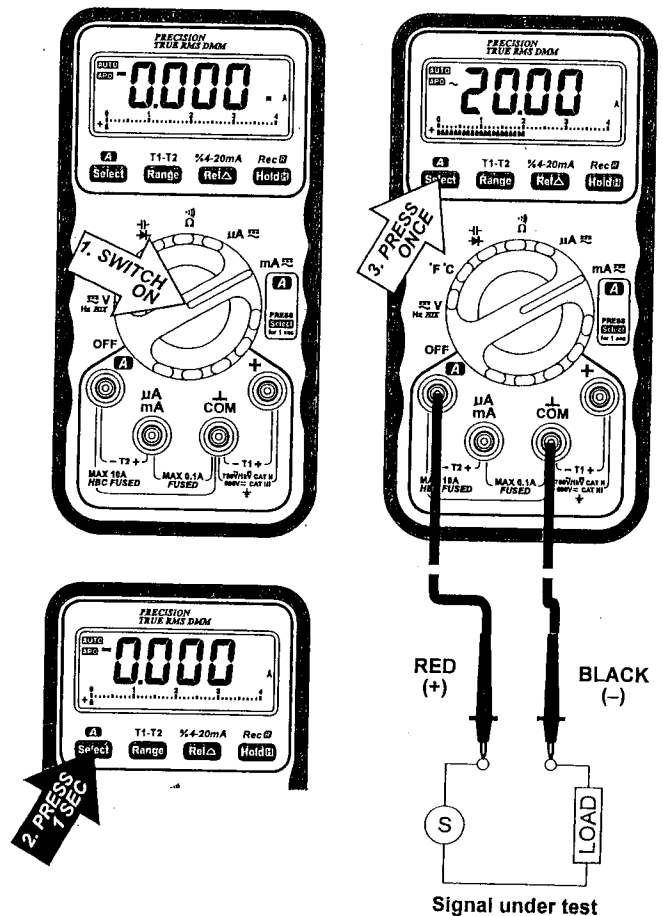

FIG 9. A FUNCTION (AM-57 & AM-59 only)
- 5) Connect the test leads as shown in **FIG 9** and observe the digital display